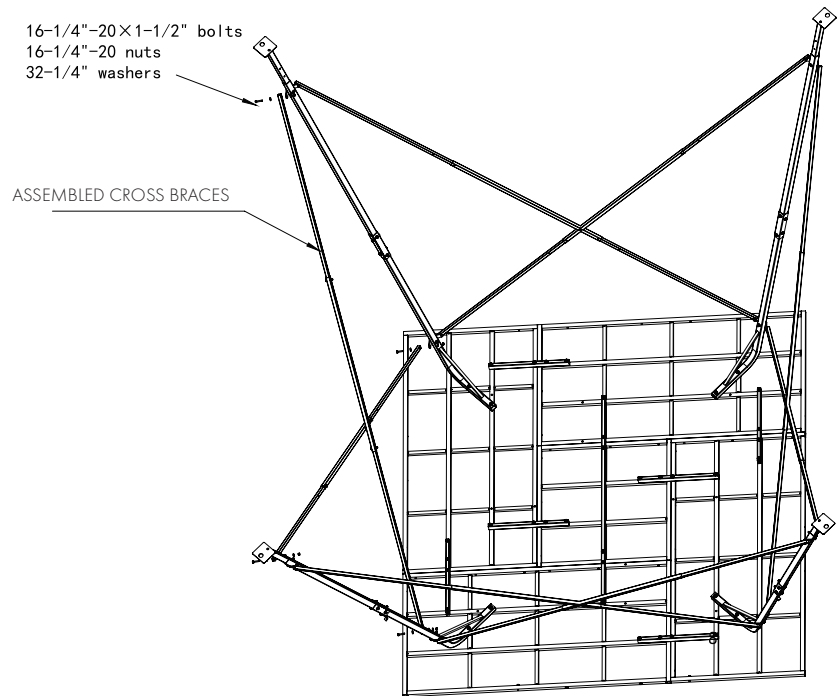

FIGURE 7
Assemble the eight assembled **CROSS BRACES** to the four assembled **LEGS** by using (16) 1/4"-20 x 1-1/2" bolts, (16) 1/4" lock nuts and (32) 1/4" flat washers (Figure 7). **Be sure to not over tighten.**